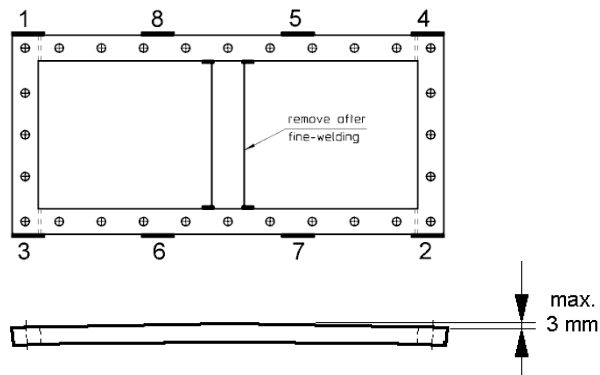

Figure 6. Welding of the mounting frame.
- 5) First tack-weld the frame into position to minimize deformation during final welding (see fig. 6).